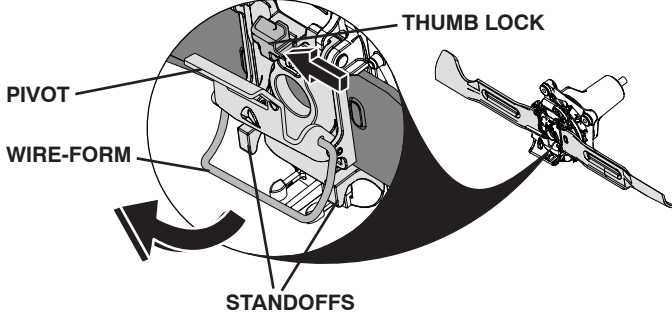

Fig. 20
- Slide thumb lock and release pivot to allow wire-form to swing free from standoffs. (See Fig. 20.)